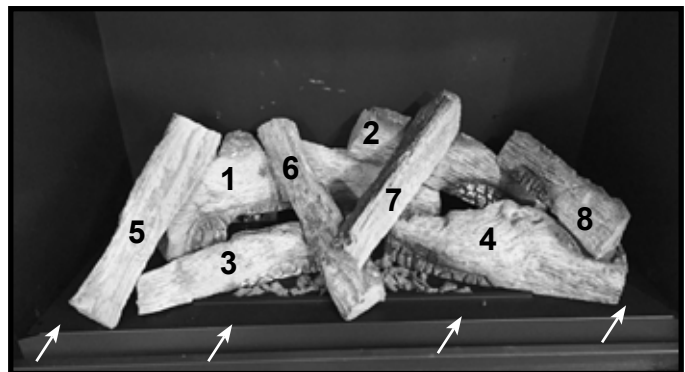

Figure 13. Install Top Right Log and Lava Rock Locations
11. The top right log (8) will rest on two voids shown in Figure 12, install log by placing it on top of these voids. See Figure 13.
12. This product is shipped with a bag of Lava Rock. Approximately one third of the bag will be used for initial setup, the remainder should be placed in the manual bag assembly and left with the homeowner. Do not store beneath the appliance. Install Lava Rock by placing it (by hand) in the locations denoted by arrows in Figure 13. Care should be taken to avoid placing lava rock on the burner.